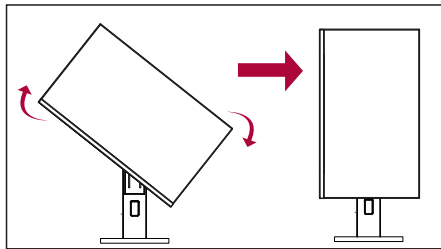

Figure 3
3. Rotate the screen 90 degrees clockwise as shown in Figure 3.